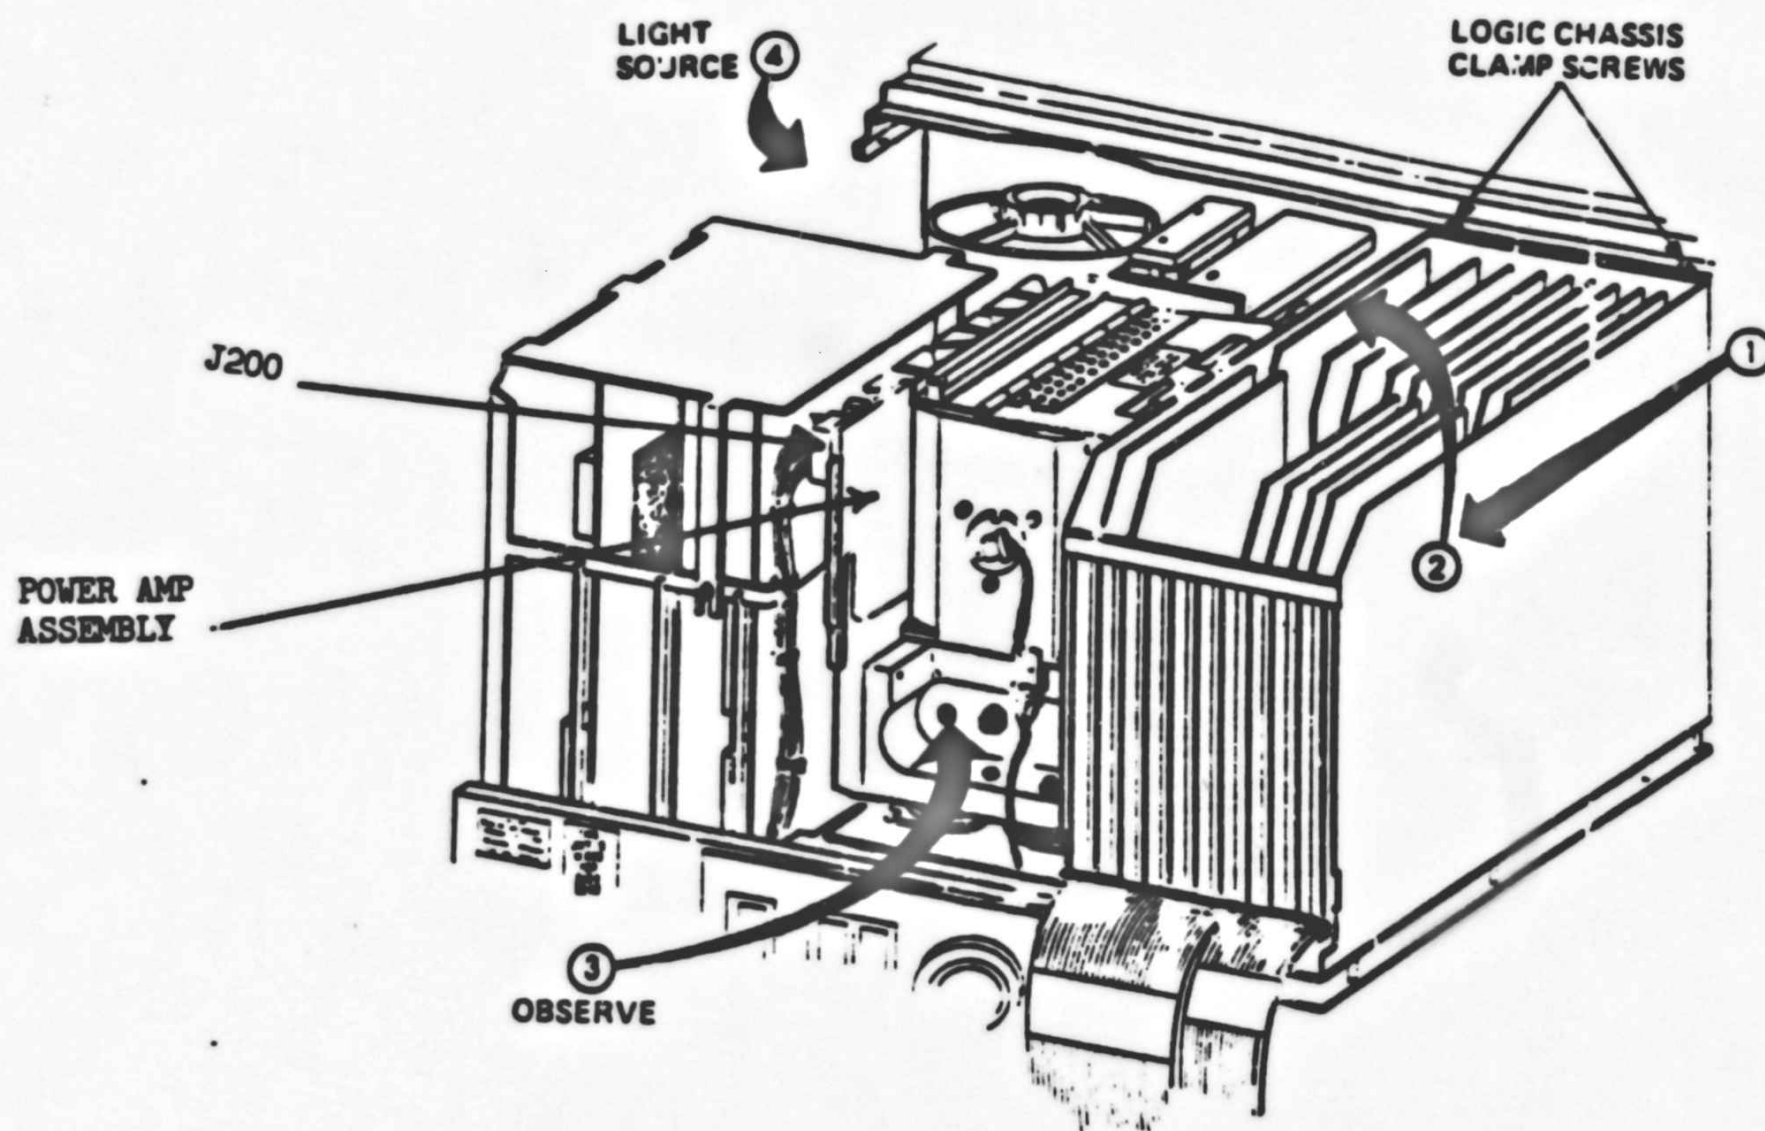
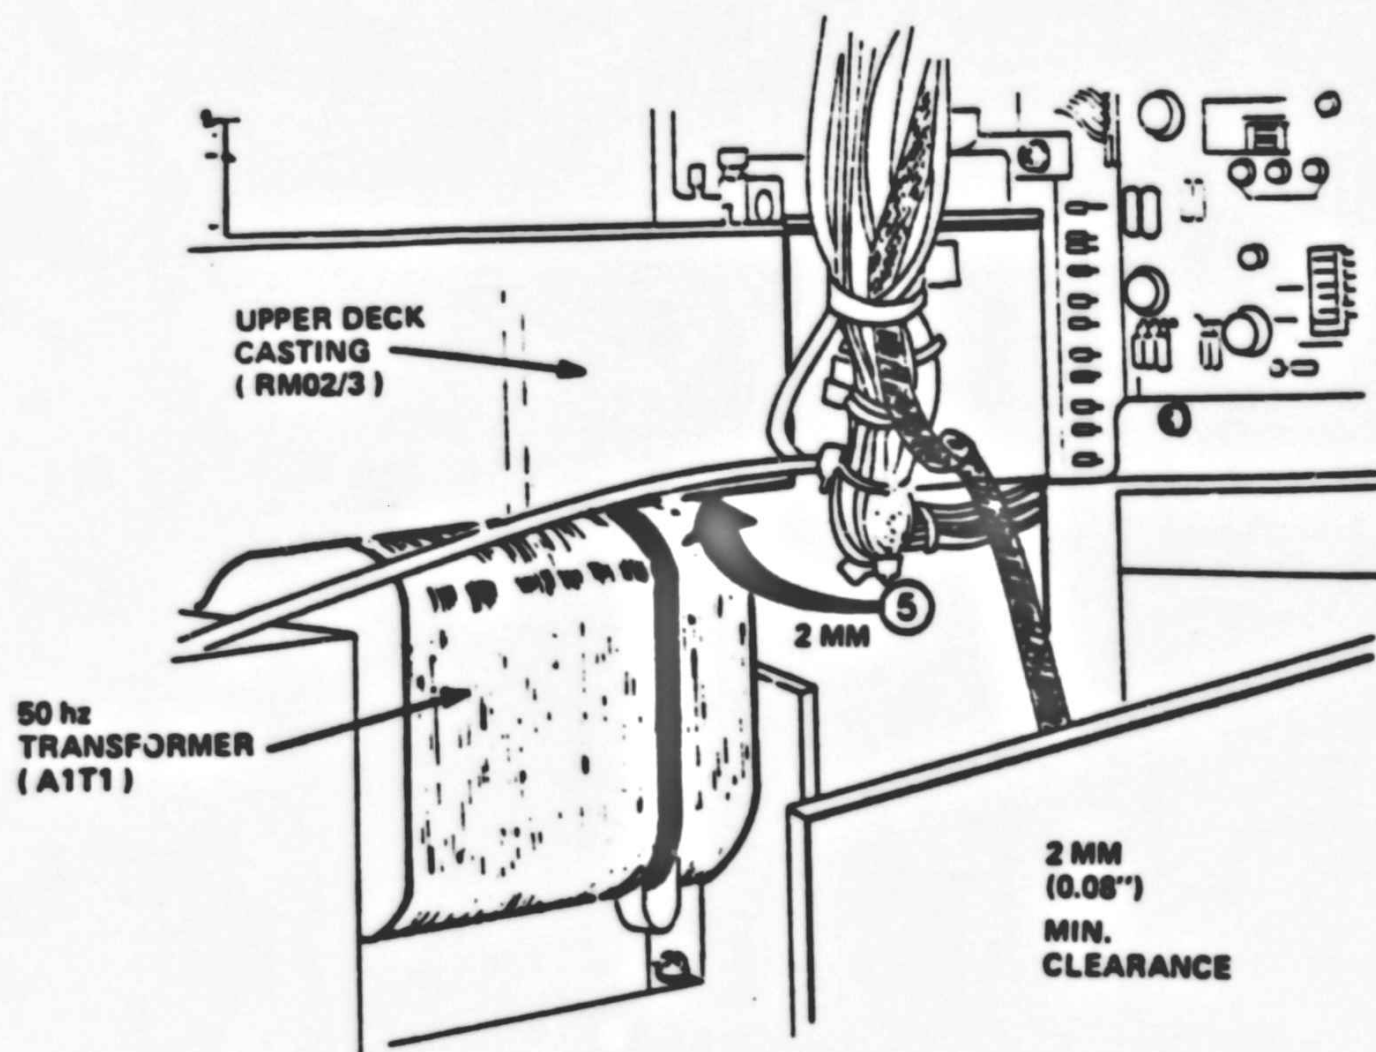
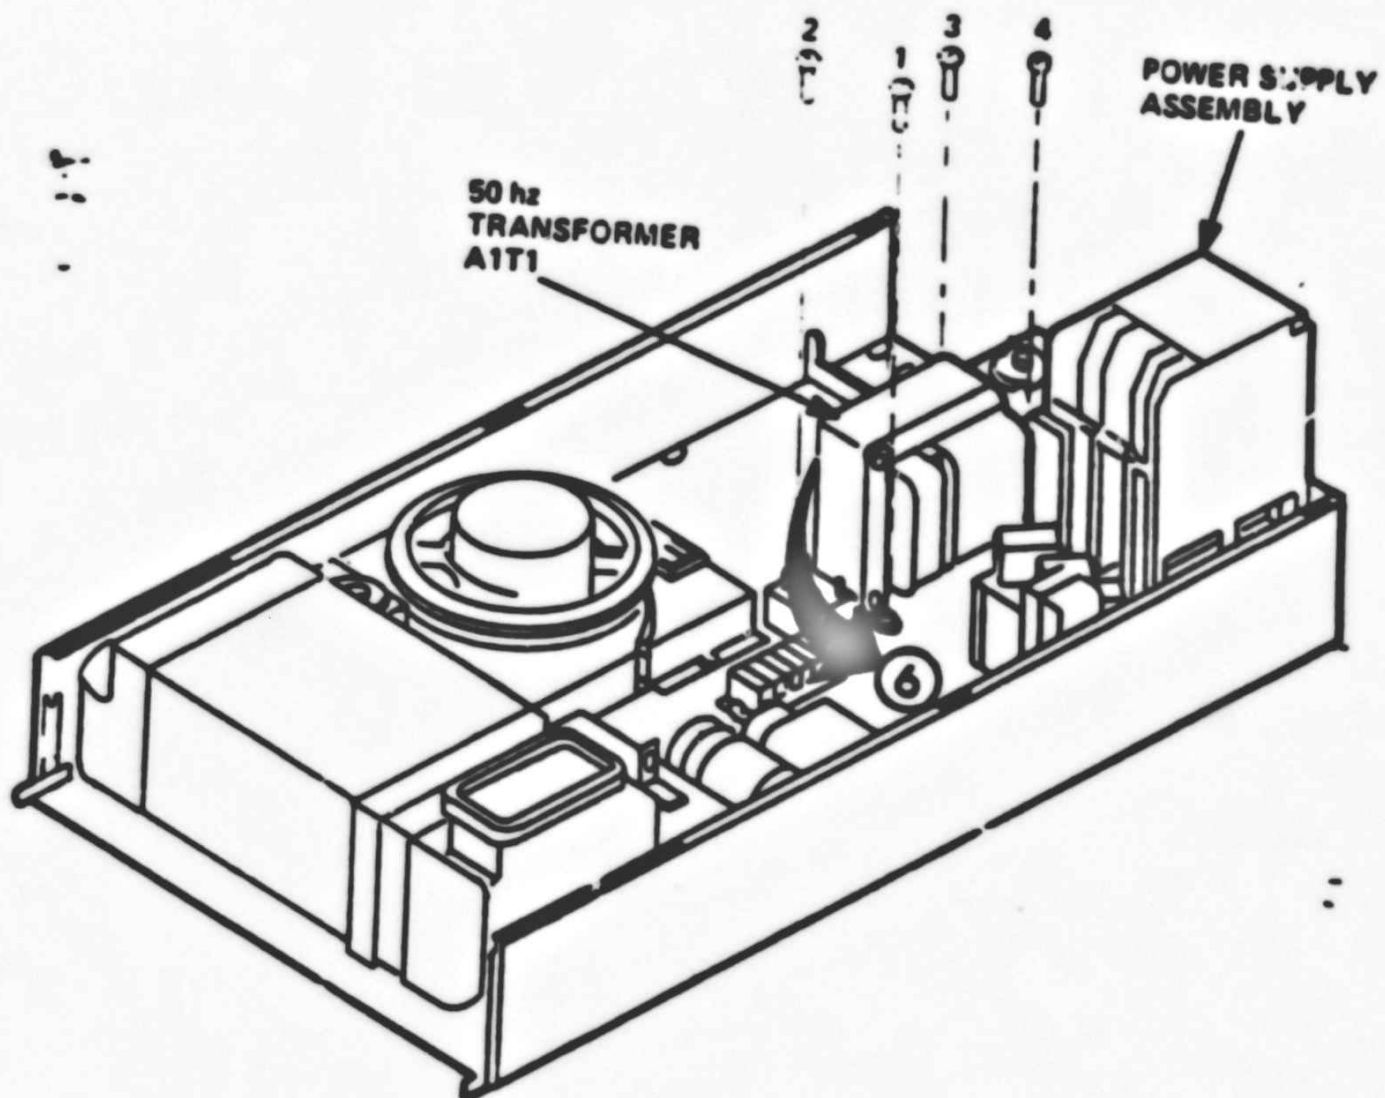

FIGURE 1
FIGURE 3
FIGURE 4
3. Loosen the logic chassis clamp screws from the rear of the drive (See FIGURE 1).
4. Carefully slide the logic chassis (on its hinges) towards the rear of the drive and then up and to the left (counter clockwise) into the maintenance position (ARROWS 1 & 2 in FIGURE 1).
- The upper deck plate assembly may have to be raised into its maintenance position to view all areas of the transformer, (a closer view of the transformer is shown in FIGURE 3).
9. With the deck in its lowered position, check to be sure that there is a minimum clearance of 2mm (.08 inches), between both the left and right side of the AC power transformer winding insulation and any part of the upper deck plate assembly. The critical areas of clearance are noted by the arrows labeled with no. 5 in FIGURE 3. A flashlight and feeler gauge may be required. The side of the transformer closest to the power supply assembly, see FIGURE 4, can be observed by looking through the hole in the rear of the positioner (ARROW 3, FIGURE 1) and applying sufficient light (with a flashlight) as shown by ARROW 4 in FIGURE 1. Assure that there are no pinched wire harnesses and no chance of damage due to contact between the transformer assembly and the upper deck chassis or other surrounding components.
5. Slightly loosen the transformer mounting screws #1, #2, #3, and #4 (shown in FIGURE 4).
NOTE: ACCESS TO TRANSFORMER MOUNTING SCREW #4 MAY BE OBTAINED BY FIRST REMOVING THE POWER AMP ASSEMBLY MODULE LOCATED ON THE SIDE OF THE HEADS ACTUATOR ASSEMBLY, (SEE FIGURE 1).
6. Carefully move the transformer to the left or right to obtain the required clearance of 2mm (.08 inches), on both sides of the transformer. This would be in a direction from left-to-right when viewing the transformer from the front of the drive (See ARROW 6 in FIGURE 4).
9. Tighten the four (4) transformer mounting screws.
11. Remove the three (3) transformer mounting screws #1, #2, and #3 as shown in FIGURE 4.
- E. Remove the two (2) screws that secure the power amp to the deck casting. An offset phillips screwdriver will be needed.
13. Remove transformer screw #4 (FIGURE 4).